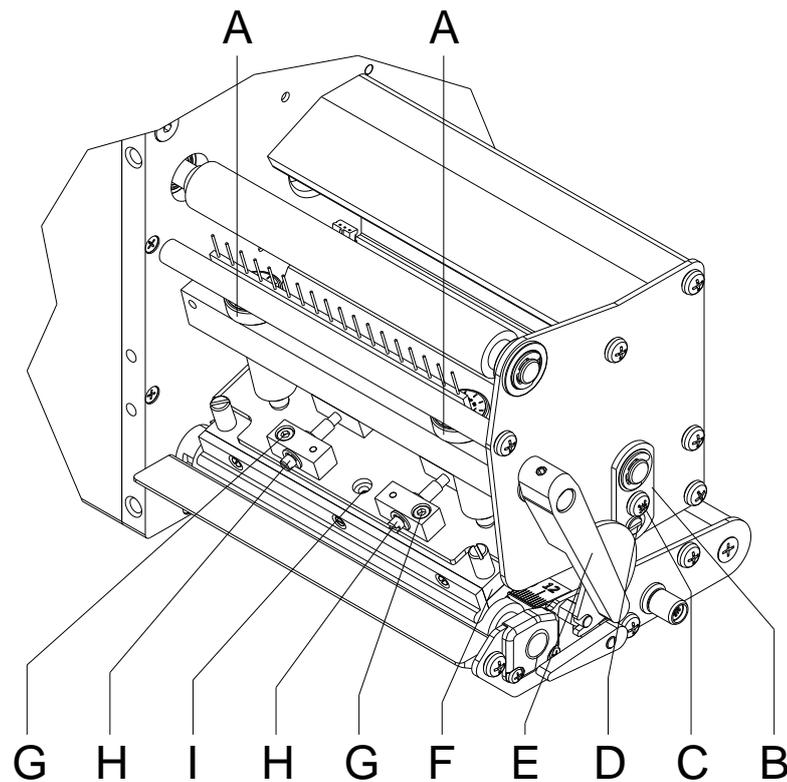

Figure 23
After adjusting parallelism and no even strong pressure exists over the complete print width, by means of a plate (B, Figure 23) you can set the balance.
1. Loosen the screw (C, Figure 23) with a screwdriver by approx. ¼ rotations.
2. In order to achieve a pressure balance, turn the eccentric bolt (D, Figure 23) as long as the printing result comes up to your full expectation.
3. Tighten again the screw (C, Figure 23).
Change the head contact pressure with the screws (A, Figure 23) at the inside and outside of the printhead. Increasing the head contact pressure leads to an improvement of the print image density on the corresponding side and to a shifting of the ribbon feed path in the corresponding direction.
1. Turn the pressure screws (A, Figure 23) to change the pressure of printhead.
2. Turning of pressure screws (A, Figure 23) as far as they will go in clockwise direction results in a pressure increase of 10N in contrast to the factory settings.
3. Turning of pressure screws (A, Figure 23) exactly one rotation from the right stop position counter clockwise results in the factory settings.